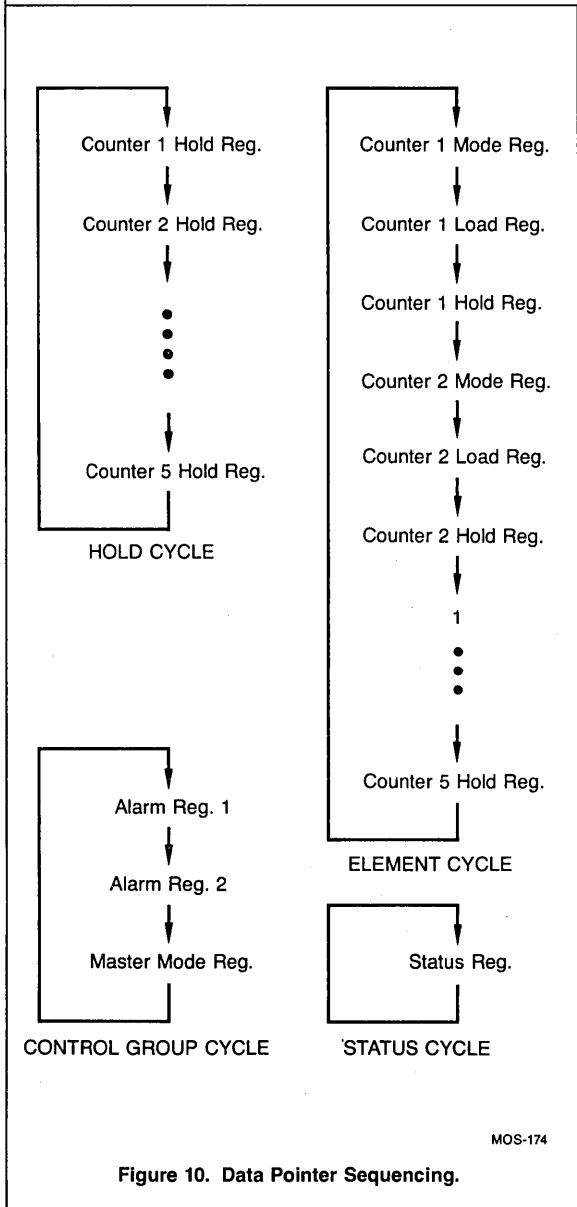

Figure 10. Data Pointer Sequencing.
To permit the host processor to rapidly access the various internal registers, automatic sequencing of the Data Pointer is provided. Sequencing is enabled by clearing Master Mode bit 14 ($MM14$) to zero. As shown in Figure 10, several types of sequencing are available depending on the data bus width being used and the initial Data Pointer value entered by command.
1. Using Figures 8 and 9, select the appropriate Data Pointer Group and Element codes for the register to be accessed. Note that two codes are provided for the Hold registers, to accommodate both the Hold Cycle and Element Cycle auto-sequencing modes shown in Figure 10. If auto-sequencing is disabled, either Hold code may be used.
The Data Pointer register is now set. Setting the Data Pointer register automatically sets the Byte Pointer to 1, indicating a least significant byte is expected for 8-bit data bus interfacing. If Master Mode register bit MM14 = 0, the Data Pointer will automatically sequence through one of the cycles shown in Figure 10 after reading or writing each register. For convenience, bit MM14 can be set or cleared by software command.